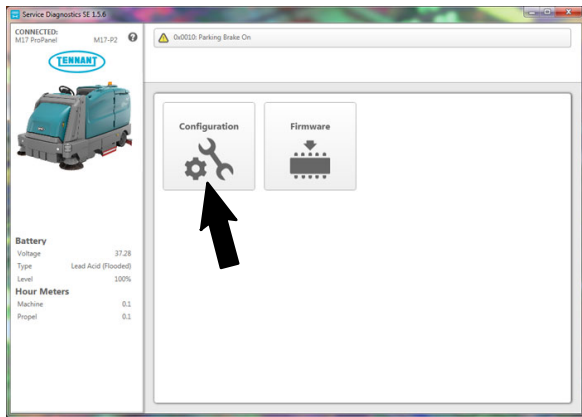

FIG. 24
- Check the machine configuration selections for incorrect installed options. Select the Configuration button. (Fig. 24)